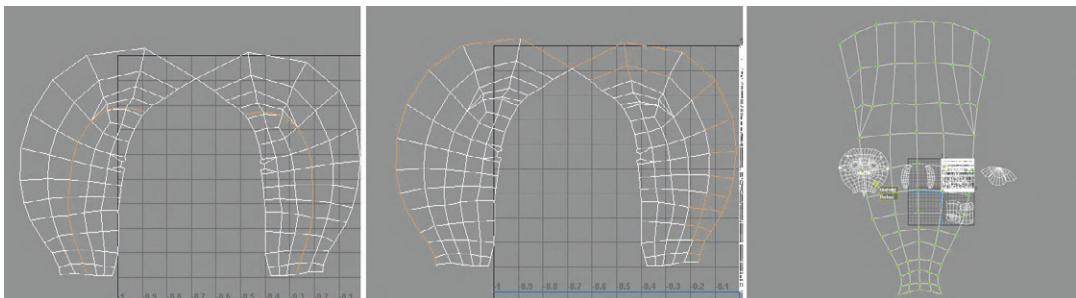

FIG 5.38 Creating a new shell to represent the top and back of the head.
Step 13: Create a new shell as a strip to represent the top and middle of the back of the head. We'll get this off of the old projections. Figure 5.38
(left) shows the edges that need to be selected and then cut (Polygons > Cut UV Edges). Next, select the outer edges (Fig. 5.38, center) and Move and Sew UV Edges to make a new shell. Finally, Fig. 5.38 (right) shows this new shell after using the Smooth UVs Tool's Unfold functionality.